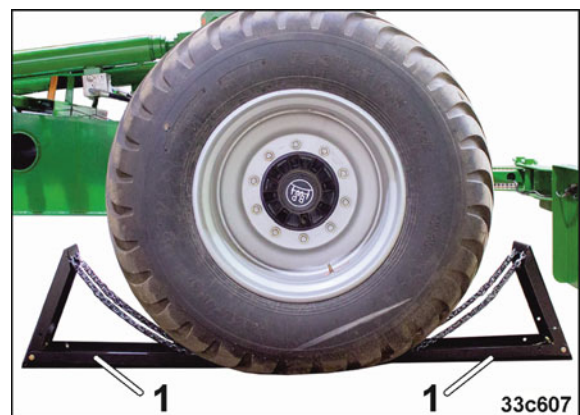

Fig. 114
1. Verify that the implement is secured with wheel chocks (Fig. 114/1).